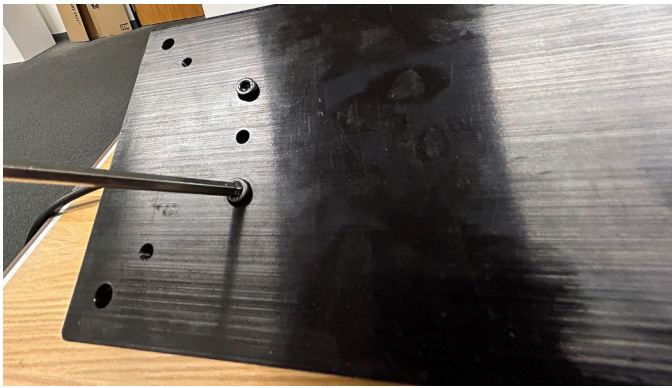

FIGURE 10
9. Place the base on the headstock and tailstock mounts. Then, align the mounting holes to the holes in the headstock and tailstock mounts. Thread in one screw at a time. Just thread the screw in 2-3 turns at this time. **Do not tighten them all the way.** With the screws loose, you will be able to get all four of them started (see Figure 10).